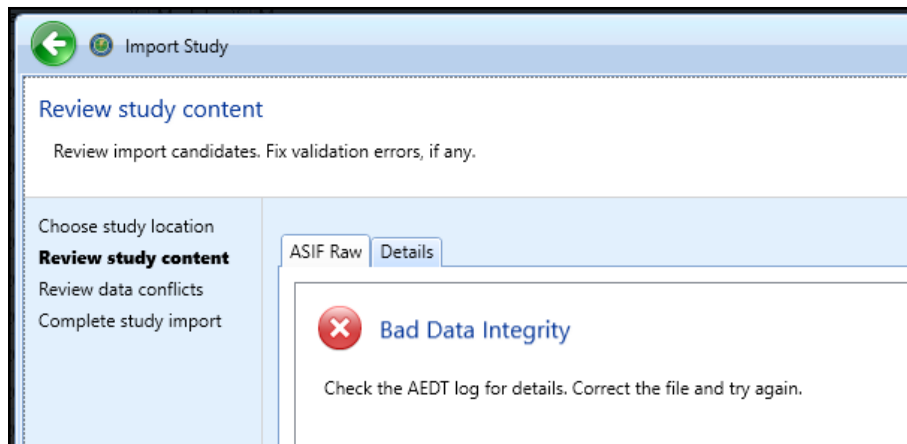

Figure 62. Review study content – Bad data integrity
4. The *Review study content* step displays validation errors if any (Figure 62).